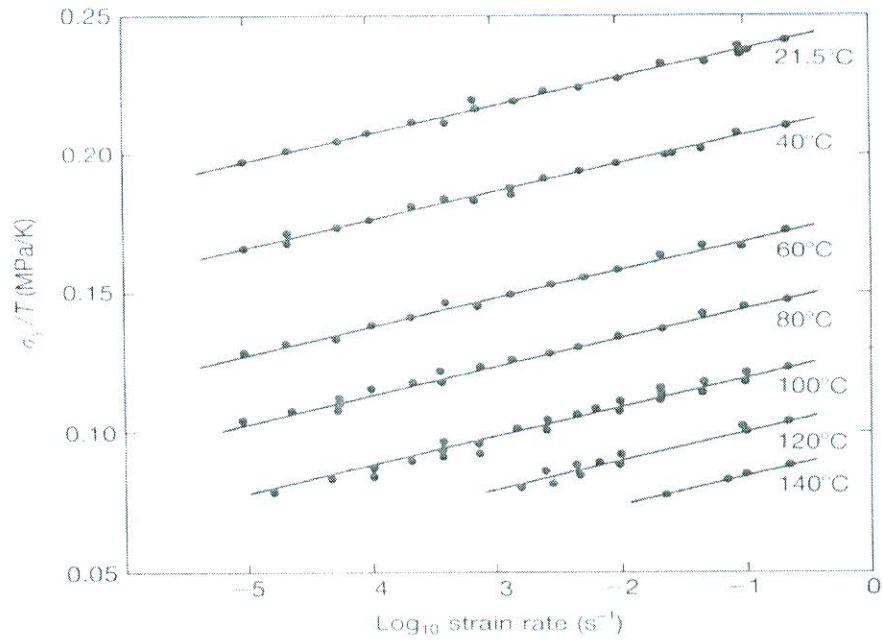

Figure 2 - Eyring plot σ_y/T against $\log \bar{\epsilon}$ for polycarbonate
7. [a] Calculate the activation energy volume V^* and activation enthalpy ΔH for the yielding of polycarbonate, using the data shown in Figure 2.